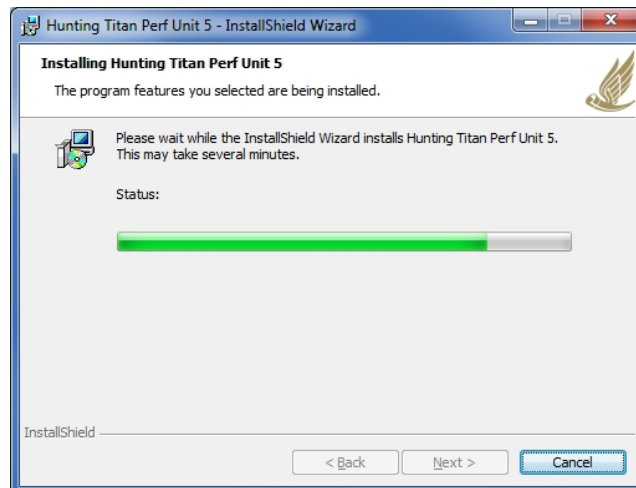

Figure 9
10. The “Installing Hunting Titan Perf Unit 5” screen appears, shown in Figure 9, and the program installs along with showing a progress window to completion.